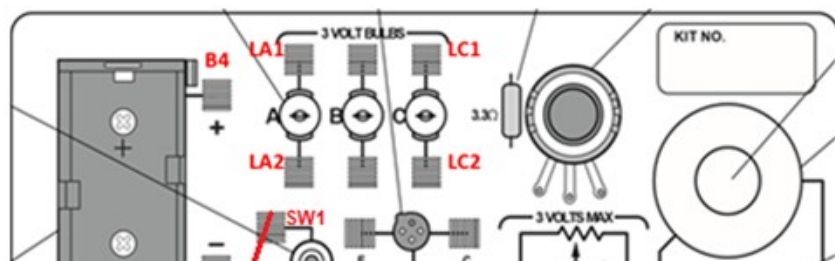

Figure 6: Single
1. Connect the circuit as shown in Figure 6, using a $100 \text{ k}\Omega$ resistor and a $100 \text{ }\mu\text{F}$ capacitor (or close to these values). Note that the wire sticking out of **SW2** is not connected on the other side. This will be used later to discharge the capacitor.
3. The initial few steps are to familiarize you with how the capacitor behaves. Start with no voltage on the capacitor and the switch off. If there is remaining voltage on the capacitor, use a piece of wire to “short” the two leads together, draining any remaining charge. (Touch the ends of a wire to points **C5** and **C7** as shown in Figure 6 to discharge the capacitor.)
- a) With the circuit connected as in Fig. 6, discharge the capacitor by momentarily connecting **C5** and **C7** with a piece of wire.
- b) Start Record in Capstone and press the switch to charge the capacitor. Fig 6.
- a) With the circuit connected as in Fig. 6, discharge the capacitor by momentarily connecting **C5** and **C7** by a wire.